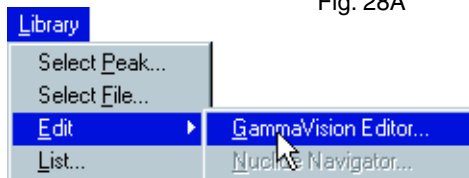

Fig. 28C
2.3 Choose **Library, Edit, GammaVision Editor** (Fig. 28C).